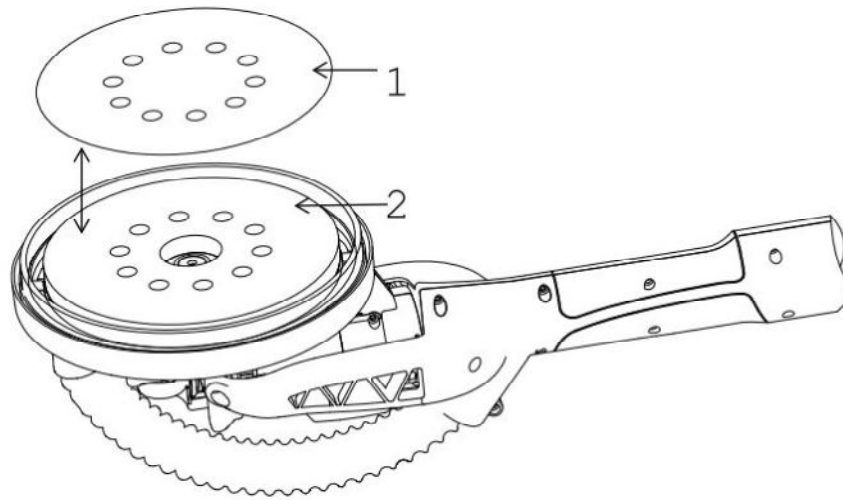

Fig .2
6. Installation & Sandpaper Replacement (Fig.2)
To ensure the replacement procedures, place the device on the smooth ground prior to installation. Take the sandpaper from the toolbox, and then fix it onto the disk (see Fig .2). The back of the sandpaper (Item 1) will automatically glue with the disk/adhesive disk (Item 2), making both connection and conduction available.